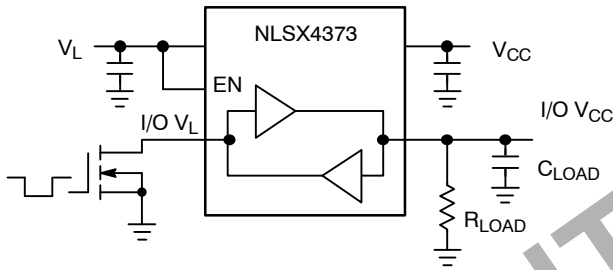

Figure 4. Open-Drain Driving I/O  $V_L$
3. Typical values are for  $V_{CC} = +3.3 \text{ V}$ ,  $V_L = +1.8 \text{ V}$  and  $T_A = +25^\circ\text{C}$ .4. All units are production tested at  $T_A = +25^\circ\text{C}$ . Limits over the operating temperature range are guaranteed by design.**TIMING CHARACTERISTICS – OPEN DRAIN DRIVING CONFIGURATIONS**(I/O test circuit of Figures 4 and 5,  $C_{LOAD} = 15 \text{ pF}$ , driver output impedance  $\leq 50 \Omega$ ,  $R_{LOAD} = 1 \text{ M}\Omega$ )